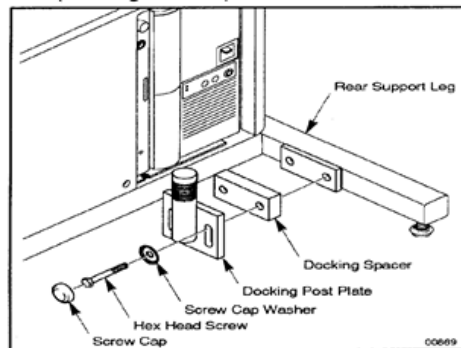

Figure 3-1 Docking Post.(Right Hand Installation Shown)
The Rear Support Leg on the NORM System **MUST** be oriented as shown in Figure 3-1 with the welded plate facing in. If it is not, block up the electronics module and remove the leg. Remember to clean the screws and screw holes and apply Loctite 242 to the screw threads before re-using them. Re-install the Rear Support Leg in the proper orientation. Check that the NORM System is LEVEL before proceeding to Procedure #1.
2. Slide a screw cap washer onto each of the hex head screws. Slide the screws through the slots in the docking post plate and docking spacer. (See Figure 3-1.)